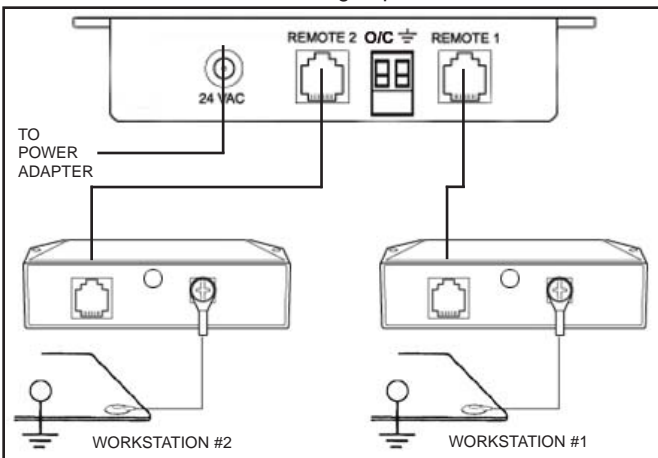

Figure 4. Wiring connection instructions for the 19232/19233 monitor control unit.
Figure 4 shows the monitor control unit as it is viewed from the rear, with the work surface wiring in place.
1. Use the rear phone jack connections and connect the Satellite Remote Units to the base unit with the phone cables. See Figure 4 for wiring connection instructions.
4. Confirm that worksurface surface resistance is  $1 \times 10^7$  ohms or less. Connect the ring terminal end of the worksurface cord included with the unit to the screw on the back of the satellite. Snap the other end to the worksurface grounding point as shown in Figures 4 and 5.